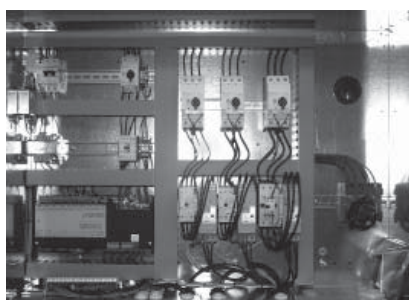

Fig.1
- For functional connection of the unit take the supply power cable to the electrical panel inside the unit fig.1 in the previous page and connect it to the knife switch terminals observing the phase, and the earth. fig.2
The first start-up has to be carried out with the standard settings, only at last test vary the values of the operation Set Point. Before starting, power the unit for at least 12-24 hours by positioning the protection thermomagnetic switch and the door lock knife switch on ON fig.1 Make sure that the control panel is turned off until it allows the oil heater system the compressor casing.